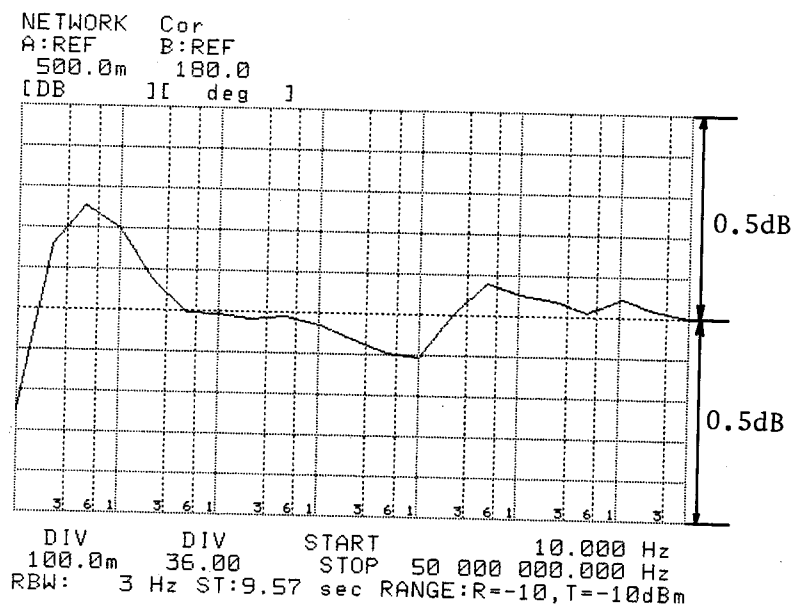

Figure 5-3. Adjustment Example
9. Adjust R18 (LF GAIN) and R25 (FLATNESS) so that the T/R data displayed by the HP 4195A is within ± 0.5 dB for the data at 50 MHz, as shown in Figure 5-3.